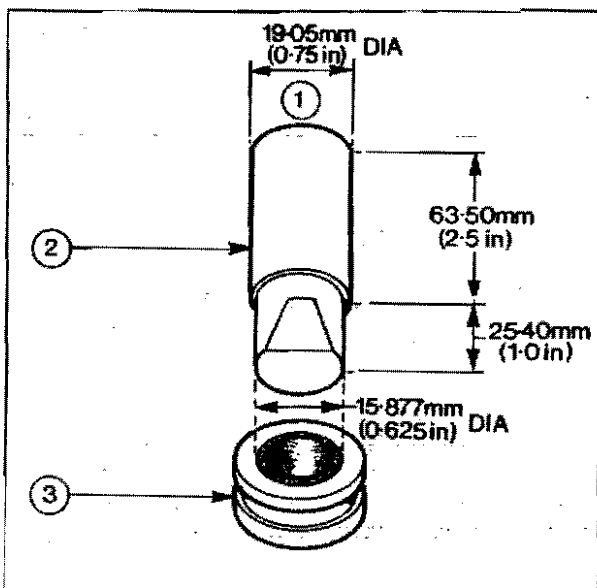

Fig. 51 - Slip Ring Press Tool
17. Place press tool (see Fig. 51) so that the spigot registers in the slip-ring bore with the cut-away portion in line with the field leads. Gently press the slip-ring down until the press tool spigot abutts the rotor shaft. Feed the field leads through cut-away portion of press tool as they appear.